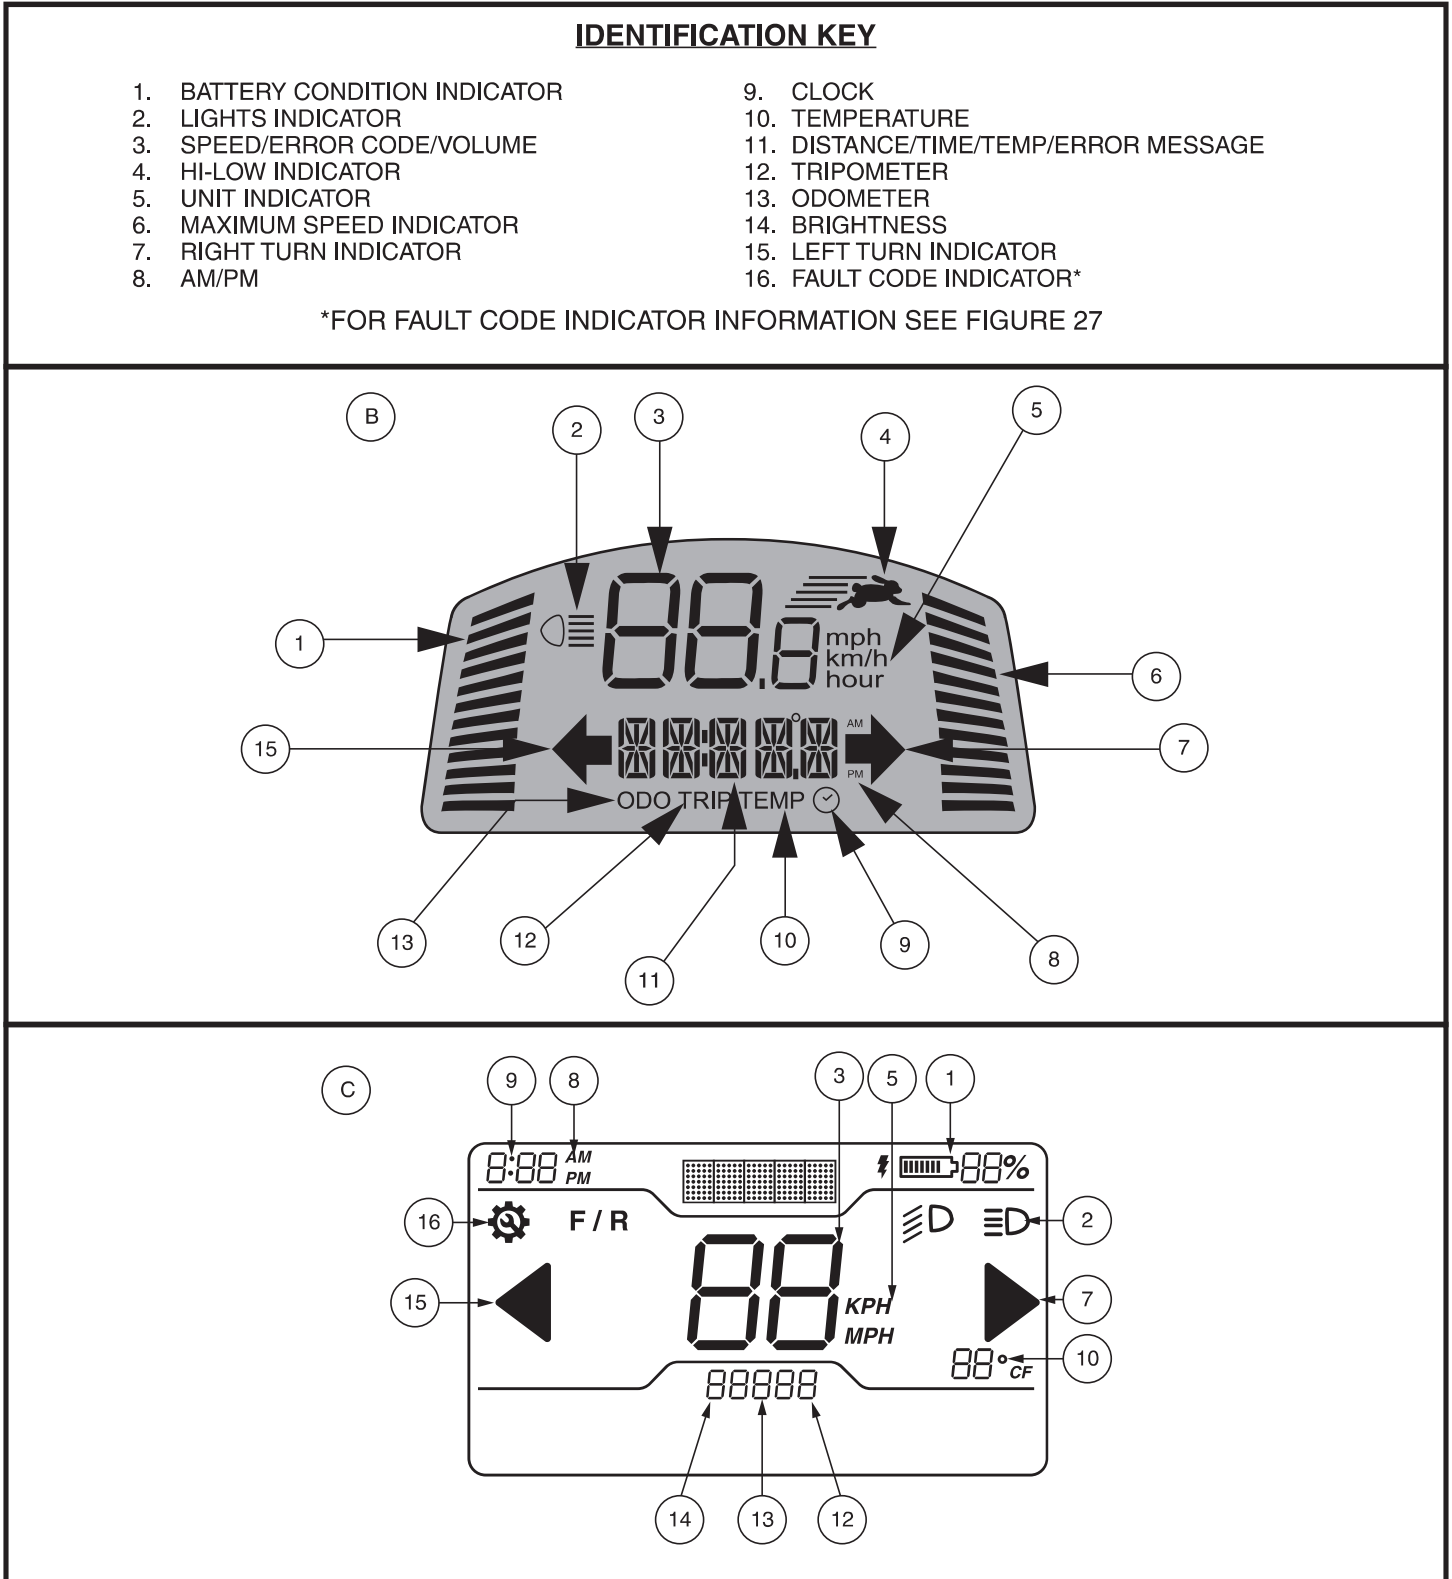

Figure 5. LCD Screen - Console Style B (Top) and Console Style C (Bottom)
NOTE: The turn signals are timed to shut off after 15 seconds. A warning beep will sound as long as the turn signal is on. See figure 5 for volume control.
- Press the High-Low button once to set the speed adjustment to High. The High-Low indicator will display on the LCD screen. **See figure 5.** Using this setting in conjunction with the speed adjustment buttons will allow the scooter to achieve speeds up to the maximum preprogrammed speed for the scooter.
These adjustment buttons enable you to pre-select and limit your scooter's speed. This is indicated by the maximum speed indicator on the LCD screen. **See figure 5.**
NOTE: The more bars shown on the maximum speed indicator, the faster your pre-selected maximum speed will be. See figure 5.
The LCD control panel offers easily intuited feedback information via the LCD screen. See figure 5. The LCD screen may also be used during the set-up (activation) of the various control panel settings. See chart 1.
**FOR LCD SCREEN INFORMATION SEE FIGURE 5.